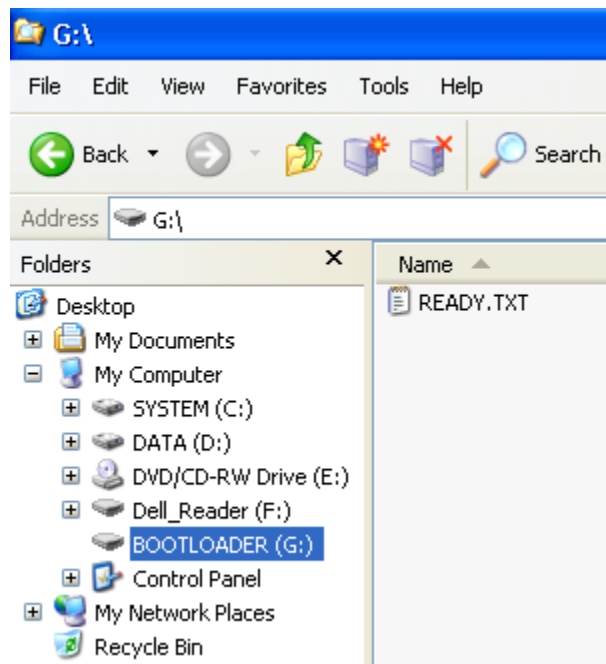

Figure 8. Bootloader drive after enumeration
4. Force the bootloader mode by holding down a button on the board, then press and release the **Reset** button. For the DEMOJM board, use button **PTG0**. For the M52259DEMO board, use button **SW1**. The device reboots in bootloader mode and enumerates a new drive in the host computer. Figure 8 shows the bootloader drive in Windows XP. Notice the volume name of the drive is BOOTLOADER, and the status file is READY.TXT. The bootloader is now ready to receive an S19 file.